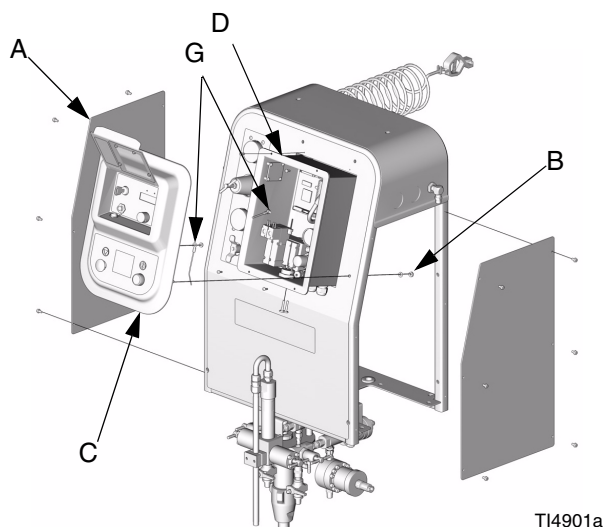

FIG. 1
2. Remove side panels (A). See FIG. 1.
3. Remove fasteners (B). Gently pull user interface (C) away from pneumatic control (D).
13. Reassemble user interface (C) in reverse order. See FIG. 1.